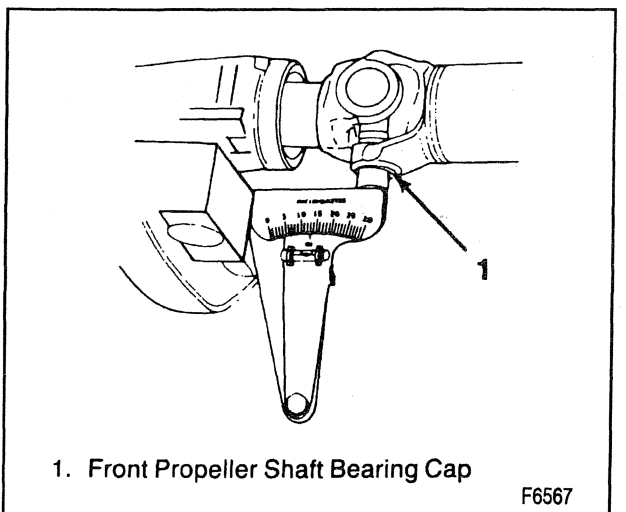

Figure 26—Measuring Front U-Joint Working Angle
1. Place the inclinometer on front propeller shaft bearing cap (figure 26). Center the bubble in the sight and record measurement.